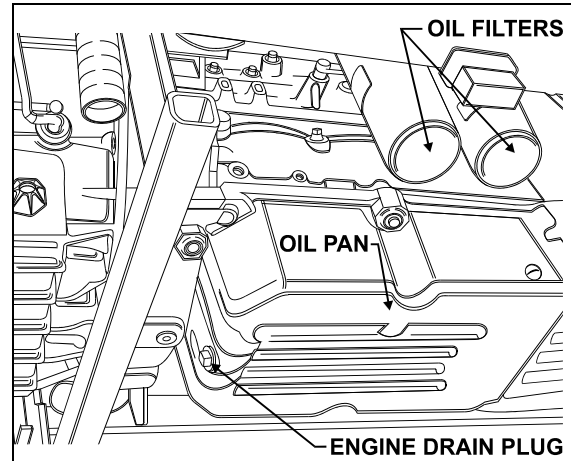

FIGURE 13: ENGINE DRAIN PLUG AND OIL FILTERS 01029
1. From under the vehicle, remove the engine drain plug on the oil pan. Allow oil to drain (Fig. 13).